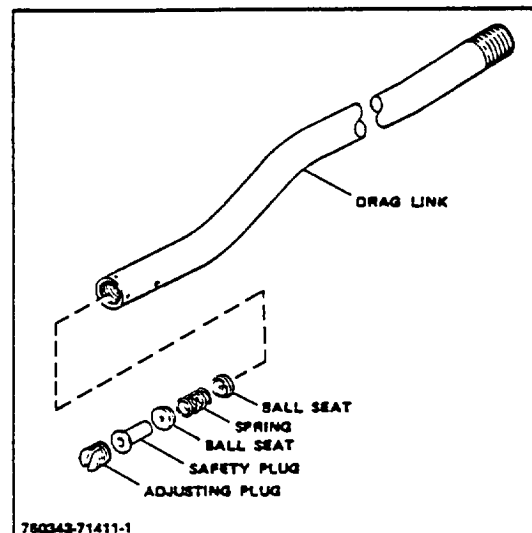

Figure 32. Drag Link Components
- 1. Remove adjusting plug, safety plug, ball seats and spring from drag link tube (Fig 32).